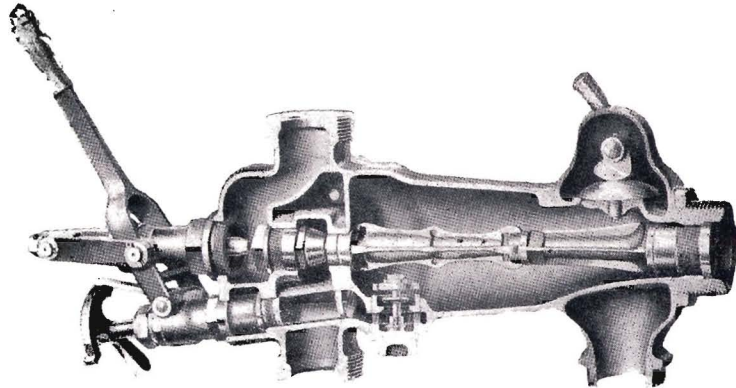
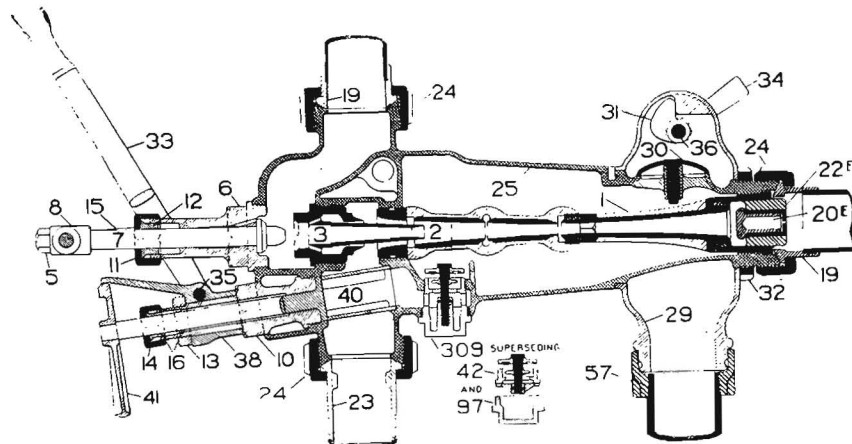

Fig. 2
Fig. 3
9. Figure 2 is a cutaway view which shows the valves, tubes, and nozzles of the injector. The main operating parts of a lifting injector consist of a TWO-POSITION STEAM VALVE and a STEAM NOZZLE, a COMBINING and CONDENSING TUBE, and a DELIVERY TUBE. Also, there is a WATER REGULATING VALVE and an OVERFLOW VALVE. Fig. 3 is a sectional view of the injector shown in Fig. 2.
valve. The part marked *20E* in Fig. 3 is an injector, or line, check valve which operates in case the boiler check valve should stick open. The handle marked *41* is the water regulating valve handle. The movement of this handle increases or cuts down the supply of water to the injector.